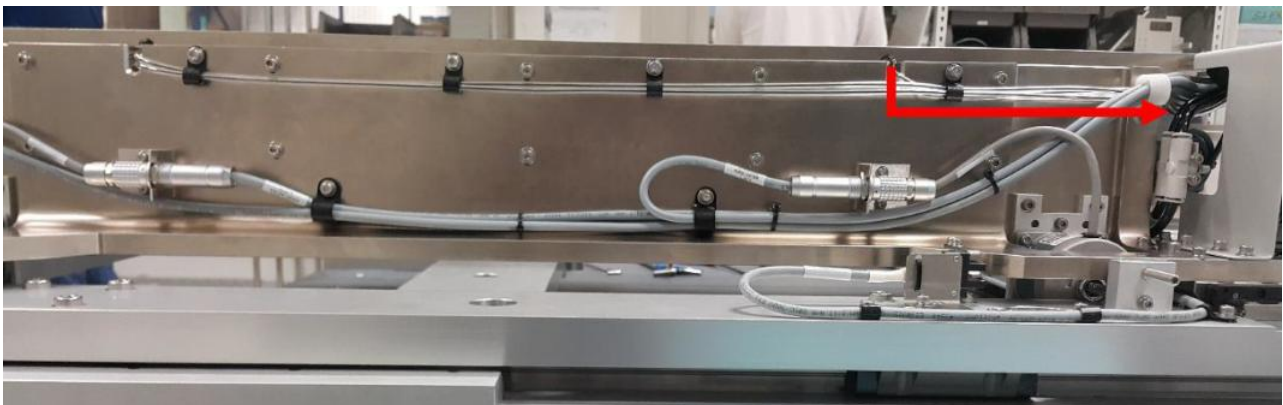
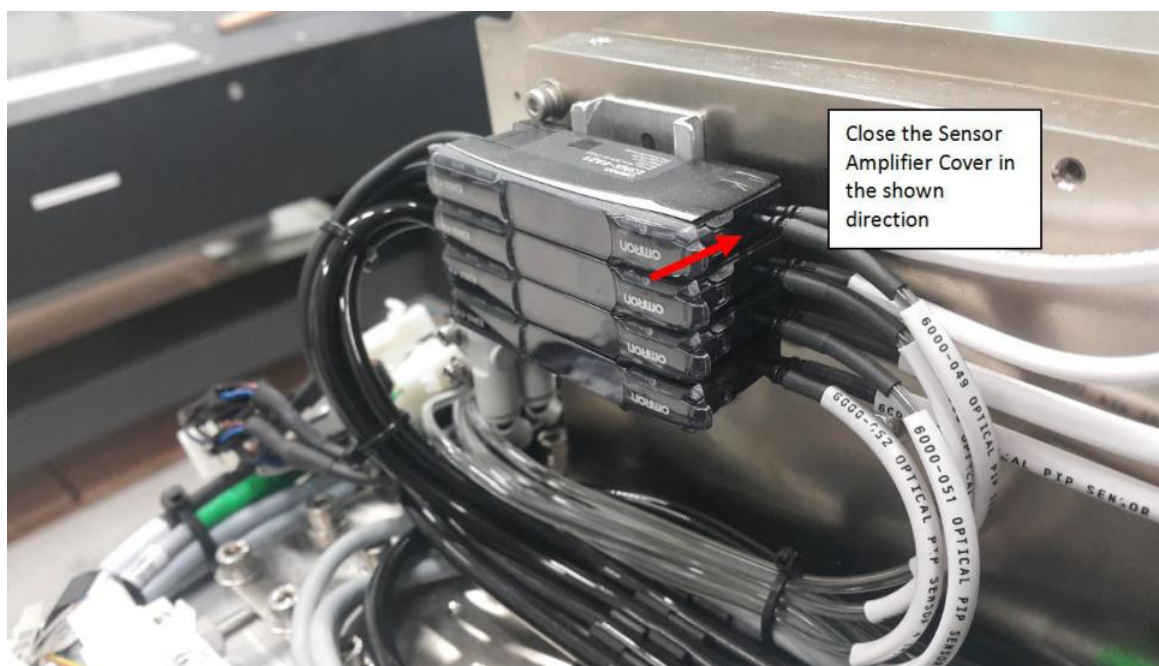

Figure 30 Sensor 1 Emitter Cable Routing
Figure 35 Sensor Amplifier Cover
9. Route cable by refer Figure 30 to Figure 35.